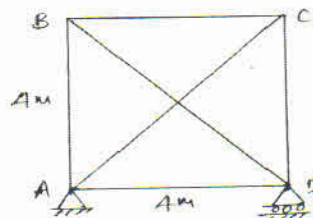

Fig.Q6
- 6 While fabricating the pin jointed frame shown in Fig.Q6, the member AC was the last member to be fitted and was found to be 1.5mm short of required length. Determine the forces induced in all the members when AC is forced into position. Diagonal members are having  $1000\text{mm}^2$  area while remaining members are having an area of  $2000\text{mm}^2$ . Take  $E = 2 \times 10^5 \text{ N/mm}^2$ . (20 Marks)